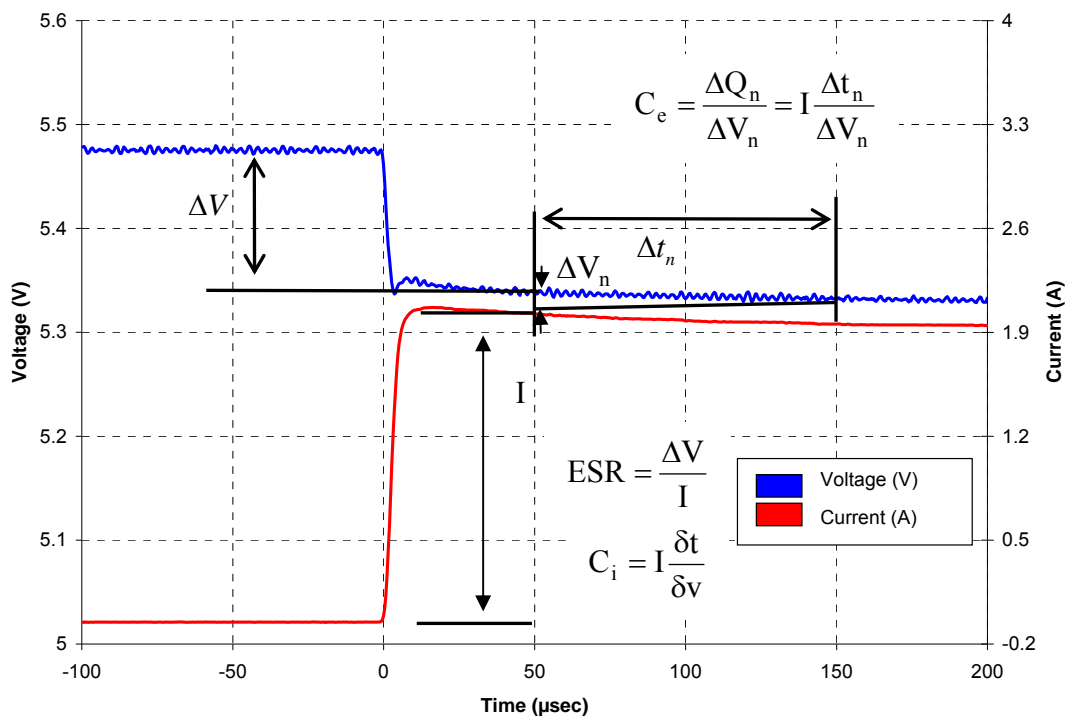

Figure 1: Definitions for Effective Capacitance, Instantaneous Capacitance and ESR
In its simplest form, the Equivalent Series Resistance (ESR) of a capacitor is the real part of the complex impedance. In the time domain it can be found by applying a step discharge current to a charged capacitor as in figure 1. In this figure the supercapacitor is pre-charged and then discharged with a constant current pulse (I). The ESR is found by dividing the instantaneous voltage step (ΔV after 50 μ sec from start of current pulse) by I. The instantaneous capacitance (C_i) can be found by taking the inverse of the derivative of the voltage and multiplying it by I. The effective capacitance (C_e) is found by dividing the total charge removed from the capacitor (ΔQ_n) by the voltage lost by the capacitor (ΔV_n). Note that ΔV , or IR drop, is not included because this is the voltage drop due to ESR. C_e shows the time response of the capacitor and it is useful for predicting circuit behaviour in pulsed applications.
In the example of Fig 1, using an HW207, $\Delta V = 5.48V - 5.34V = 0.14V$, $I = 2.05A$, so $ESR = 0.14V/2.05A = 68.3m\Omega$. Similarly for $C_{effective}$ at 100 μ sec $\Delta V_n = 5.34V - 5.32V = 0.02V$, $\Delta t_n = 100\mu$ sec, and $I = 1.97A$. Therefore, $C = 1.97A \times 100 \times 10^{-6}s / 0.02V = 9.85mF$.